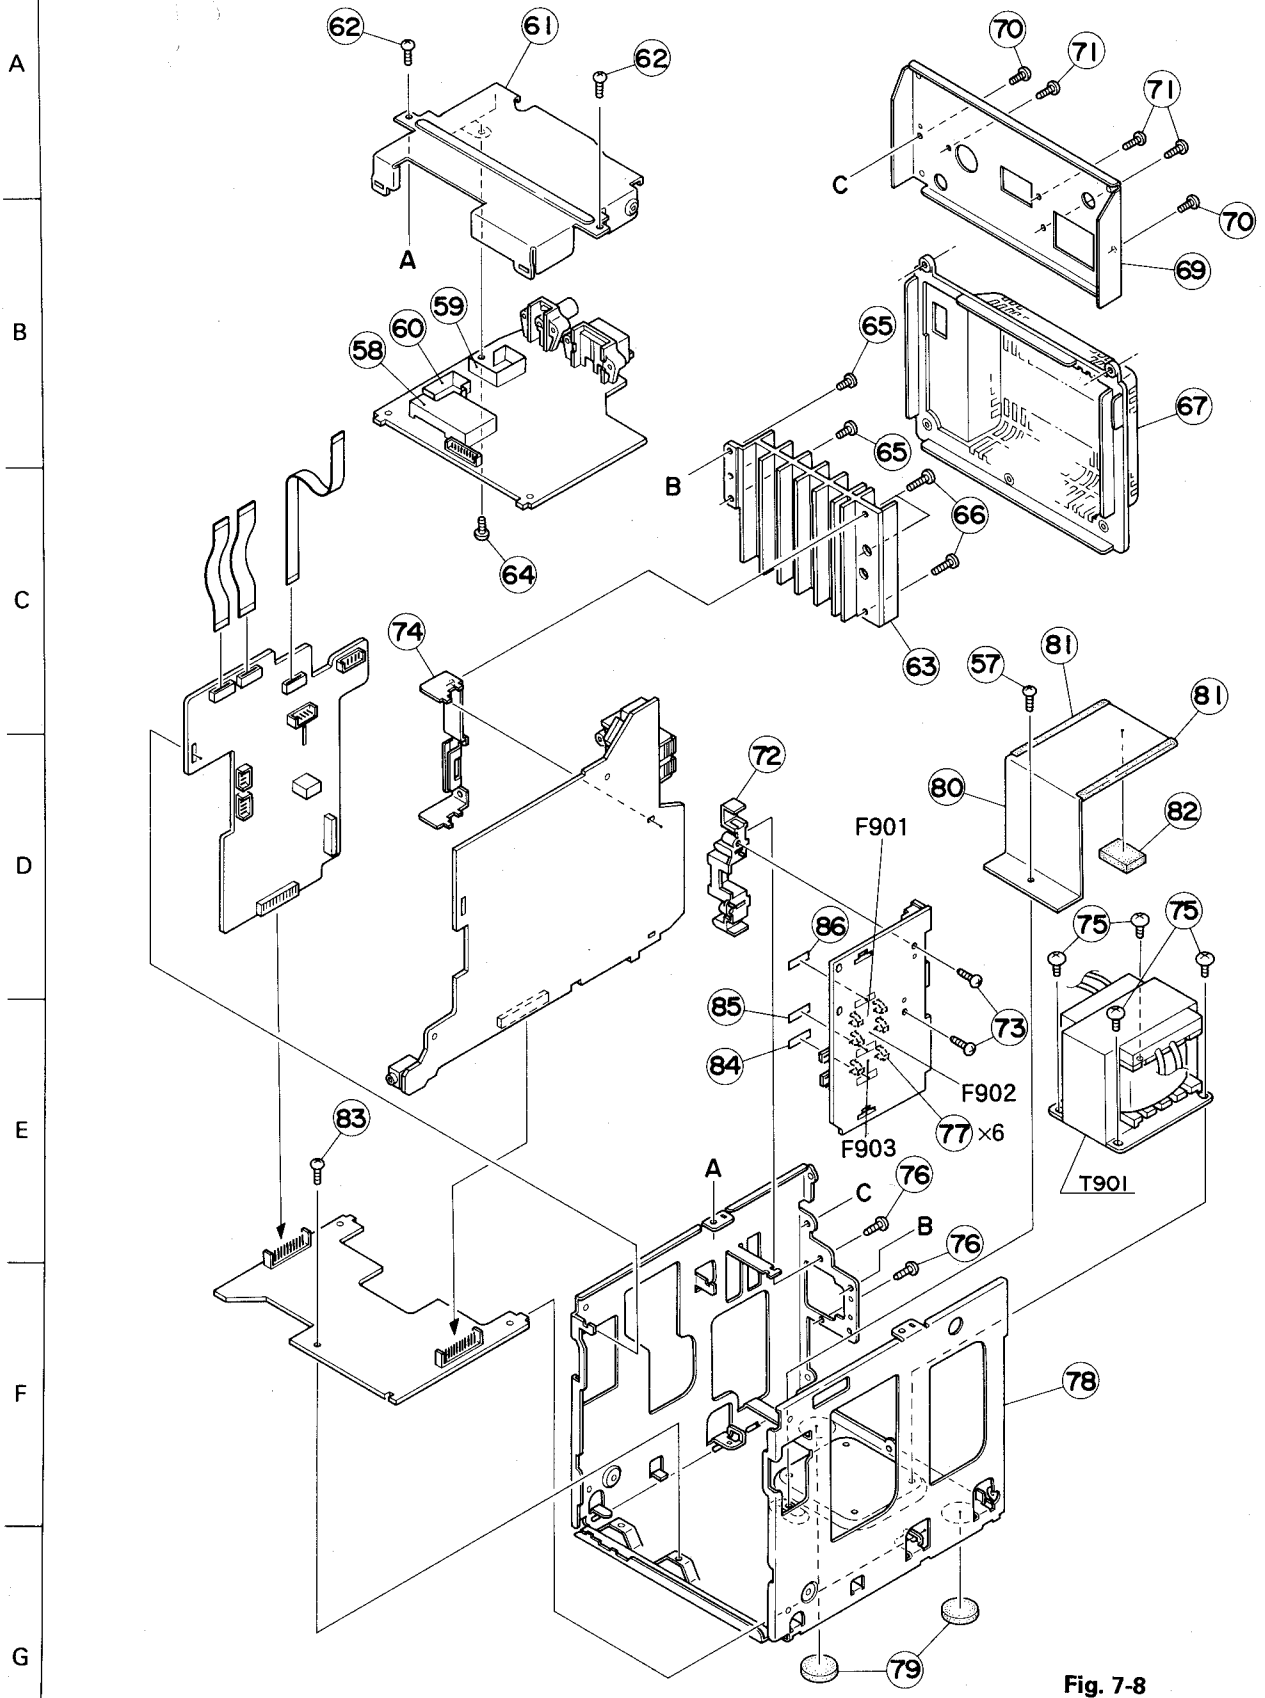

Fig. 7-8
1. Remove a screw (57) retaining the shield (80) of the power transformer (see Fig. 7-8, too).
2. Remove four screws (75) retaining the power transformer to the chassis base.